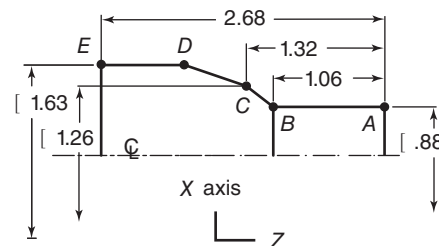

Figure 17-34 Lathe questions and problems.
4. Sketch the correct location for the PRZ on the lathe job in Fig. 17-34.
6. Write a set of absolute value coordinates for the lathe job of Question 4 (Fig. 17-34). Note, typically half the part is shown for symmetrical lathe work. The Z axis is horizontal on the page and the X is vertical.